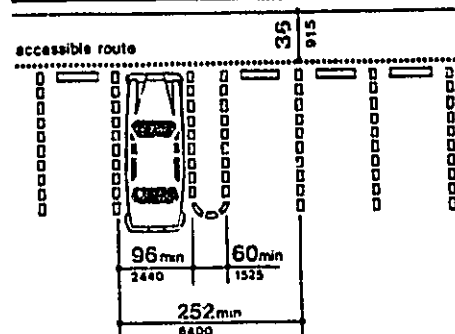

Fig. 9
4.6.3* Parking Spaces. Parking spaces for disabled people shall be at least 96 in (2440 mm) wide and shall have an adjacent access aisle 60 in (1525 mm) wide minimum (see Fig. 9). Parking access aisles shall be part of an accessible route to the building or facility entrance and shall comply with 4.3. Two accessible parking spaces may share a common access aisle. Parked vehicle overhangs shall not reduce the clear width of an accessible circulation route. Parking spaces and access aisles shall be level with surface slopes not exceeding 1:50 in all directions.